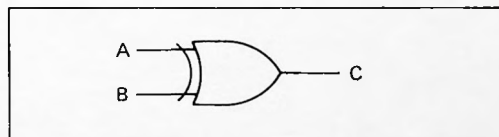

Figure C-6. Exclusive Or Logic Symbol.
f. **Exclusive Or.** As shown in Figure C-6, the Exclusive Or-gate output (C) is HIGH (+5 Vdc) only when one input at a time is HIGH (+5 Vdc). The Exclusive Or-gate output (C) is LOW (GRD) when all inputs (in this case A & B) are HIGH (+5 Vdc) or when all inputs are LOW (GRD). Therefore, a single HIGH (+5 Vdc) input controls the Exclusive Or-gate. See Exclusive Or Truth Table, Table C-6.